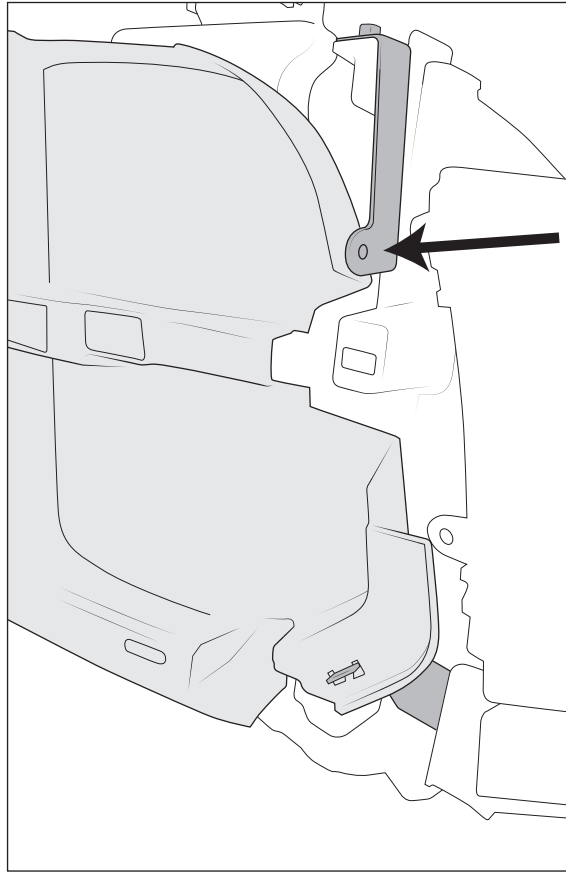

Figure 8
4. Hold trimmed air diverters up to new brackets, make sure they sit properly with radiator opening, and mark hole locations for push fasteners. Drill 1/4" holes in diverters and install fasteners (fig. 8).